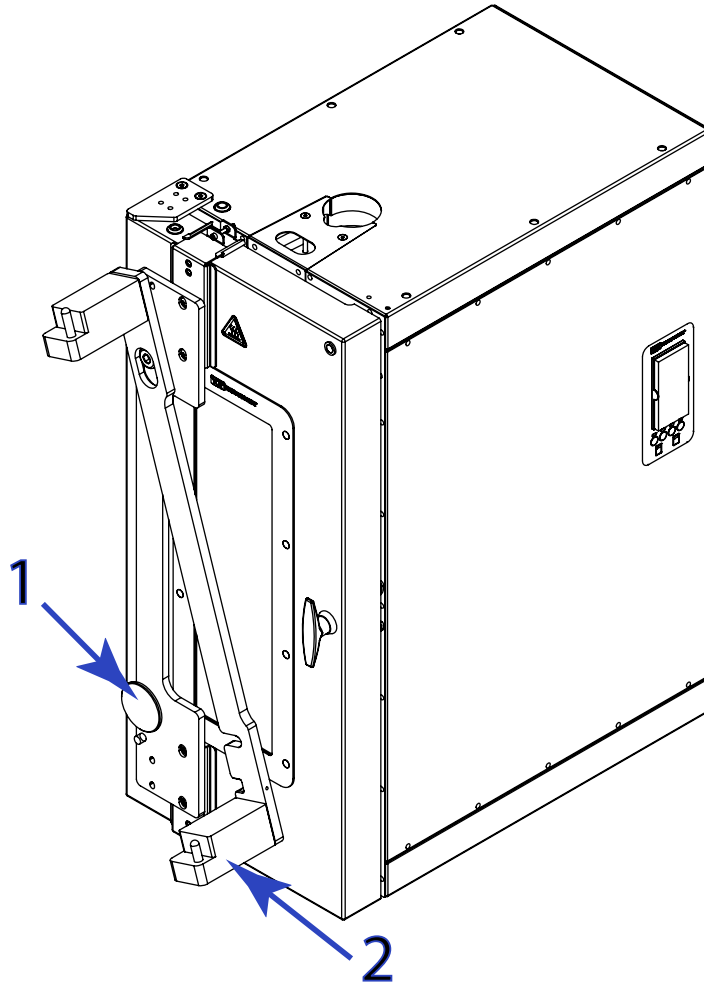

Figure 18. Removing the swing plate - stage 1
Figure 18 on page 42, Figure 19 on page 43 and Figure 20 on page 44 show the stages of removing the extensometer and post assembly and the swing plate from the chamber.
2. Turn knob (no. 1 in Figure 18) counterclockwise to loosen it.
3. Swing the lower part of the swing plate away from the knob (indicated by no. 2 in Figure 18).